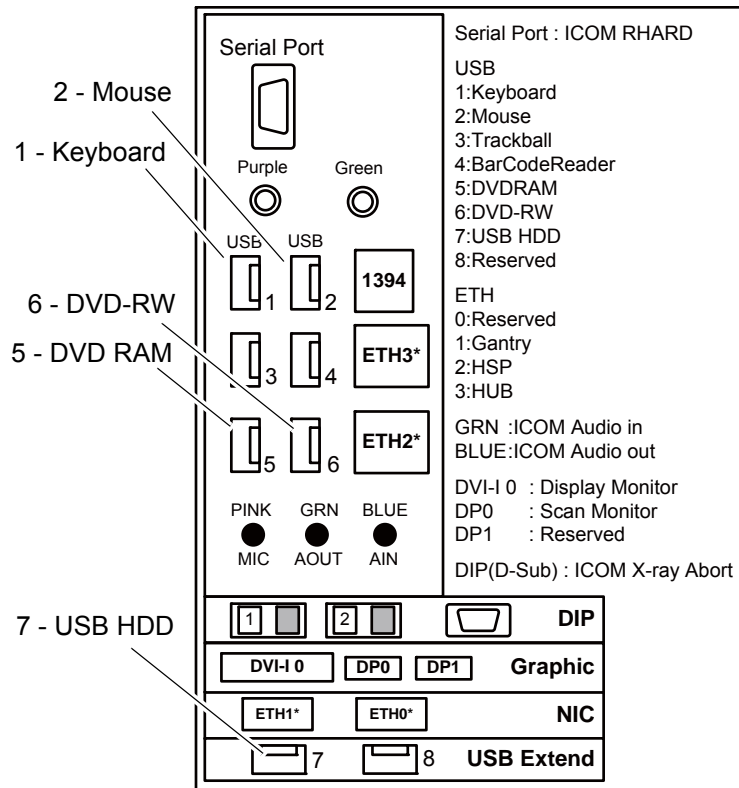

Figure 2-15 RIO Host USB Connections
- 2.) Connect the USB cables from keyboard, mouse and Media Tower directly to the ports on the USB connector of the Host Computer (Figure 2-15).